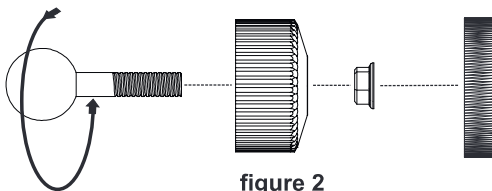
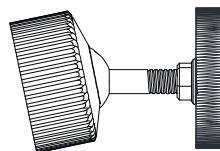

figure 2
figure 3
Mount (3), (4) & (5) as shown in figure 2. Screw the threaded ball (4) into the threaded insert on the rear of the loudspeaker (6) (loudspeaker not shown below). Tighten M10 nut (5) against the loudspeaker with a spanner. The assembly will now be as shown in figure 3.